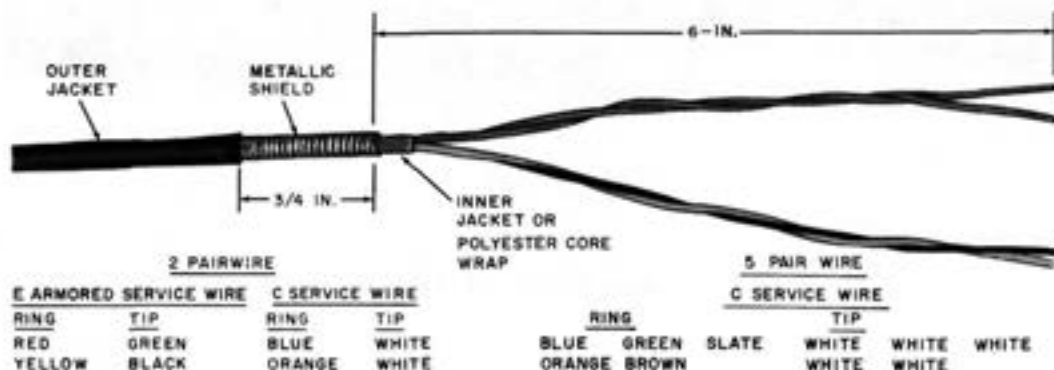

Fig. 3—†Prepared Service Wire—13- or 14-Type Closure†
3.01 Prepare service wire as shown in Fig. 3.